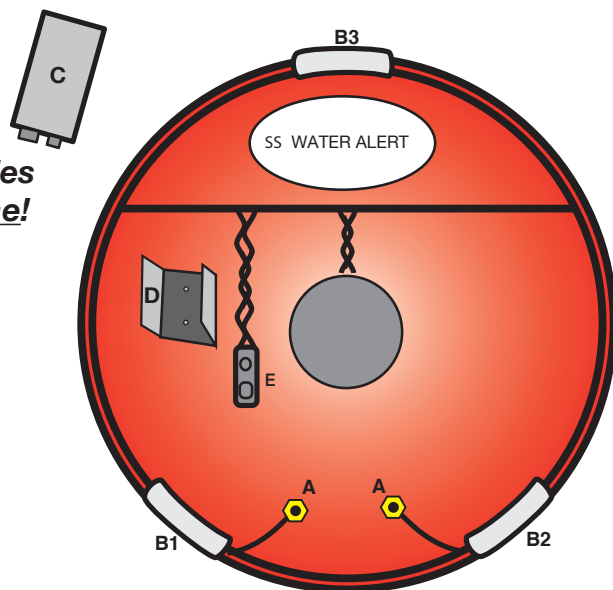

Figure 2
1. To adjust sensor height, hold straight edge across pads (B1 & B2). Turn sensors (A & A) out or until distance to straight edge equals the desired water detection level. See Figure 2.
2. Connect battery clip (E) to terminals of battery (C). Then insert the battery into retainer clip.